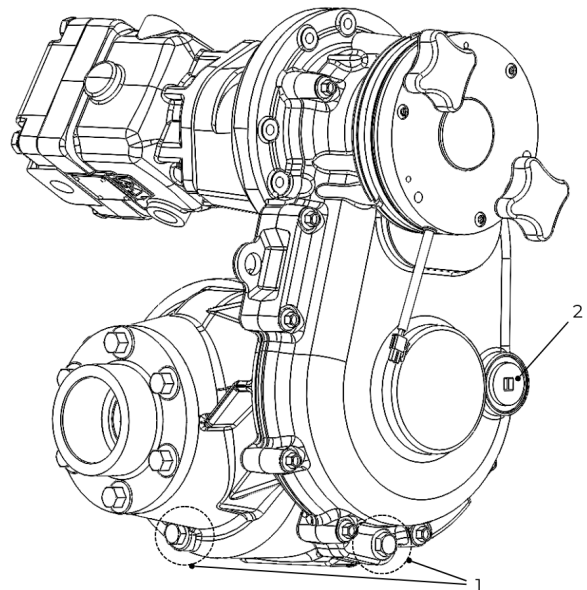

Figure 46. Aluminum Case Drain and Filler Plugs.
2. Remove the aluminum case filler plug (2). (Figure 46)